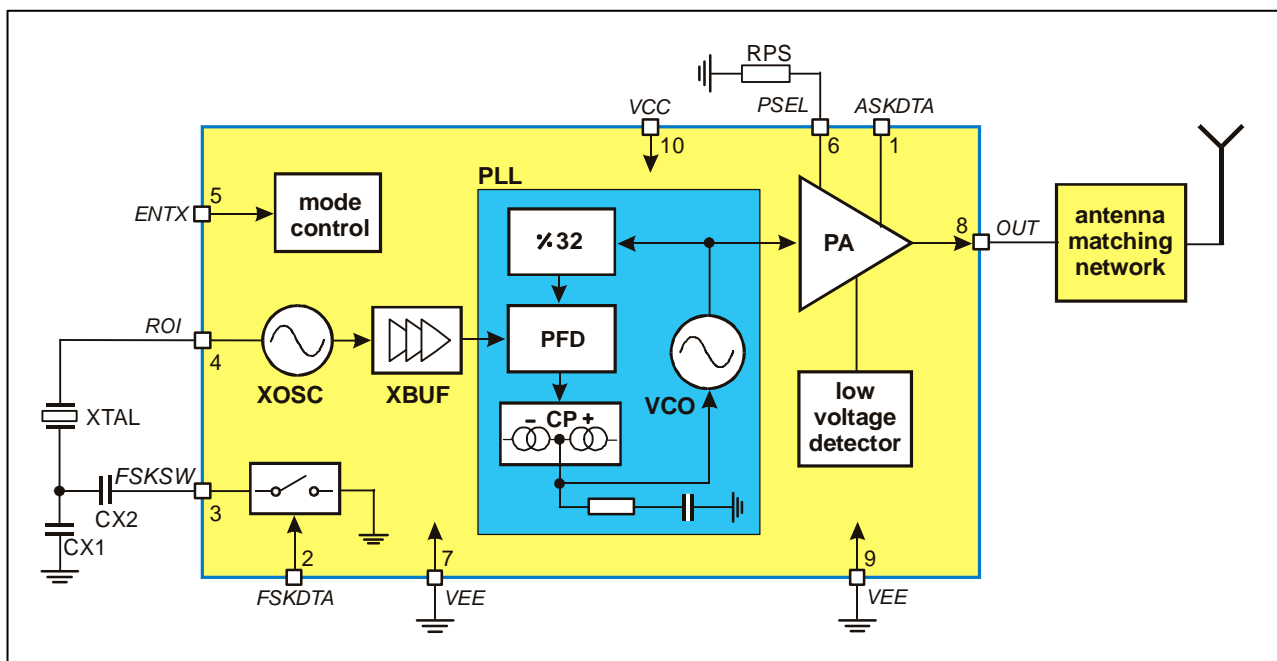

Fig. 1: Block diagram with external components
As depicted in Fig.1, the TH72035 transmitter consists of a fully integrated voltage-controlled oscillator (VCO), a divide-by-32 divider (div32), a phase-frequency detector (PFD) and a charge pump (CP). An internal loop filter determines the dynamic behavior of the PLL and suppresses reference spurious signals. A Colpitts crystal oscillator (XOSC) is used as the reference oscillator of a phase-locked loop (PLL) synthesizer. The VCO's output signal feeds the power amplifier (PA). The RF signal power P_{out} can be adjusted in four steps from $P_{out} = -11$ dBm to +9.5 dBm, either by changing the value of resistor RPS or by varying the voltage V_{PS} at pin PSEL. The open-collector output (OUT) can be used either to directly drive a loop antenna or to be matched to a 50Ohm load. Bandgap biasing ensures stable operation of the IC at a power supply range of 1.95 V to 5.5 V.